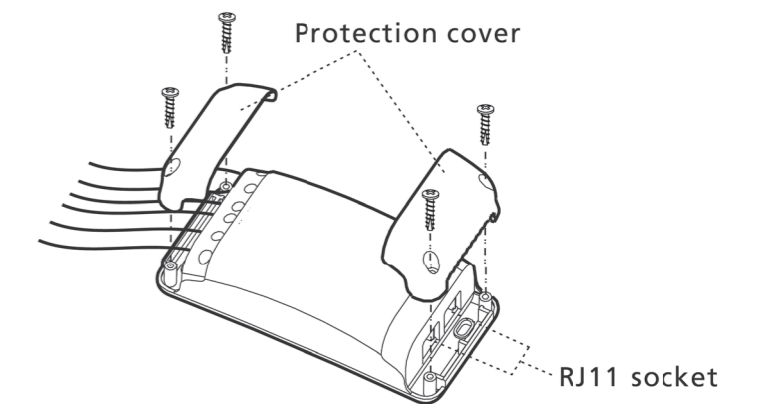

Fig. 7
3.3.2 Unscrew protection covers on power box with a cross point screwdriver. The RJ11 socket (use sensor A only) is for sensor connection and screw terminals are for power and load(s). (See Fig. 7).